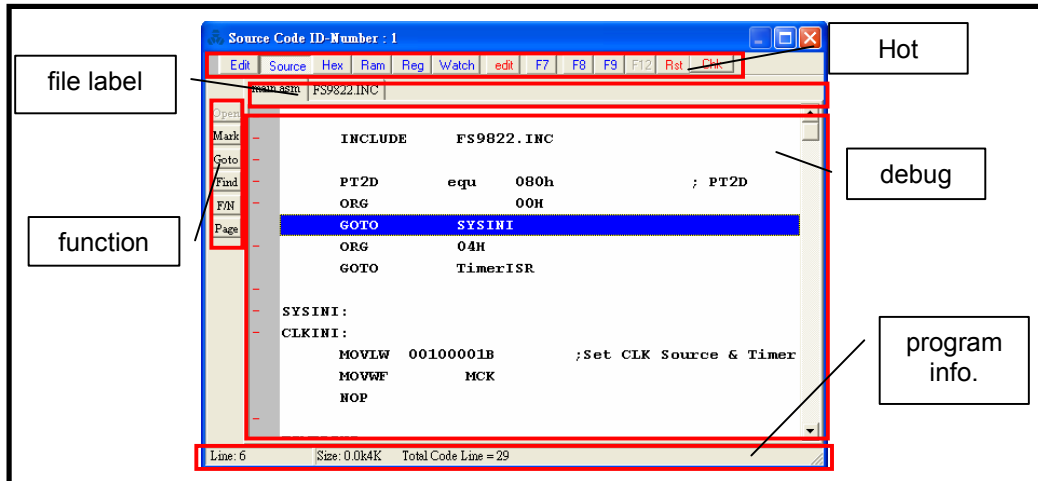

Figure 4.3 "Source" Window
"Source" Window of FS982X provides users with a screen displaying execution logic debug, whose function has 5 parts: Hot Keys, File Label, Function Keys, Debug Area and Program Info., as shown in the Figure 4.3, after users execute compiling works, the window will show up.
(5) Program Info.
- Location of Program Execution: Where the program is executed, located in the down left corner of the Figure 4.3.